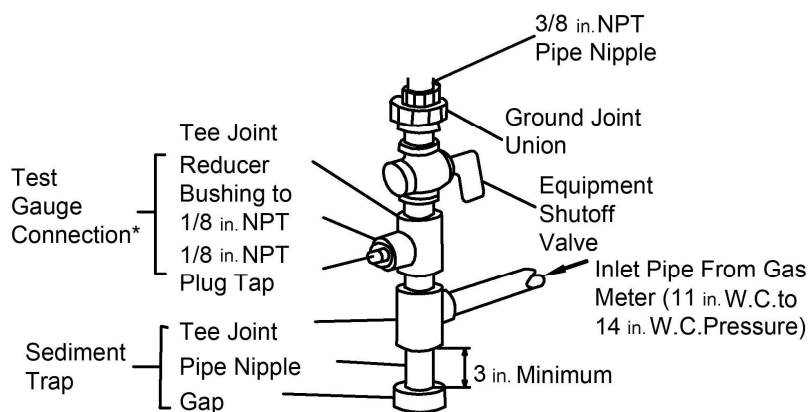

Figure 7 – Gas Connection
**⚠ CAUTION:** Use only new black iron or steel pipe. Internally tinned copper tubing may be used in certain areas. Check your local codes. Use pipe of ½ inch diameter or greater to allow proper volume gas to heater. If pipe is too small, loss of pressure will occur. Installation must include an equipment shutoff valve, union, and plugged 1/8-inch NPT tap. Locate NPT tap within reach for test gauge hook up. NPT tap must be upstream from heater (see Figure 7).
**⚠ CAUTION:** Use pipe joint sealant that is resistant to gas (PROPANE or NG). We recommend that you install a sediment trap in a supply line as shown in Figure 7. Locate sediment trap where it is within reach for cleaning and not likely to freeze. Install in the piping system between fuel supply and heater. A sediment trap traps moisture and contaminants. This keeps them from going into heater controls. If sediment trap is not installed or is installed incorrectly, heater may not run properly.